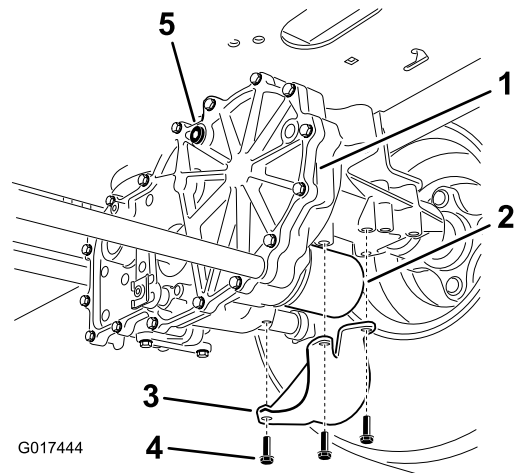

Figure 73
2. Locate the filter and guards on each transaxle-drive system (Figure 73).
3. Remove the 3 screws securing the filter guard and guard (Figure 73).